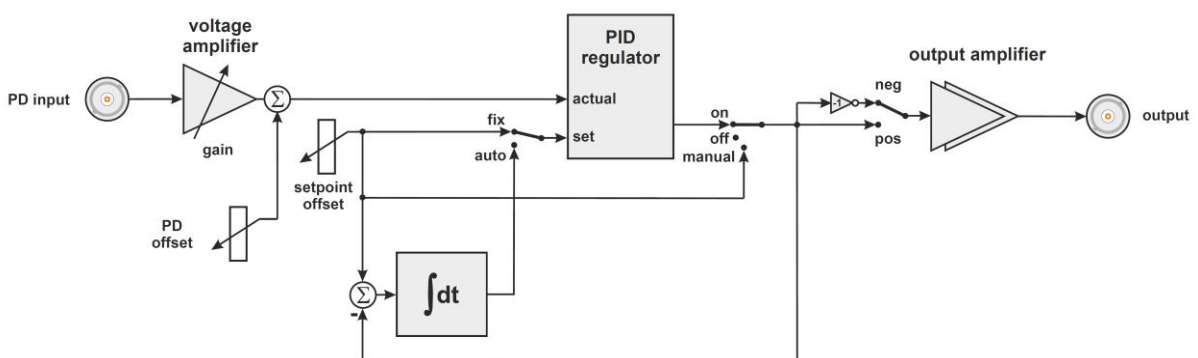

fig. 1.2: block diagram of the NoiseEater
The input amplifier of the *NoiseEater* PDin is a voltage amplifier and provided with a stepwise selectable amplification (position 0 corresponds to amplification **1**, position 1 corresponds to amplification **3**, pos. 2: **10**, Pos. 3: **30**). Furthermore there is a PID-regulator with manually or automatically selectable setpoint and a AOM- or EOM-driver adapted output amplifier (fig. 1.2).